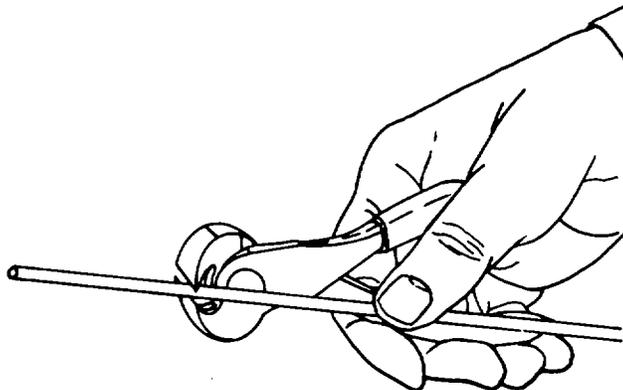
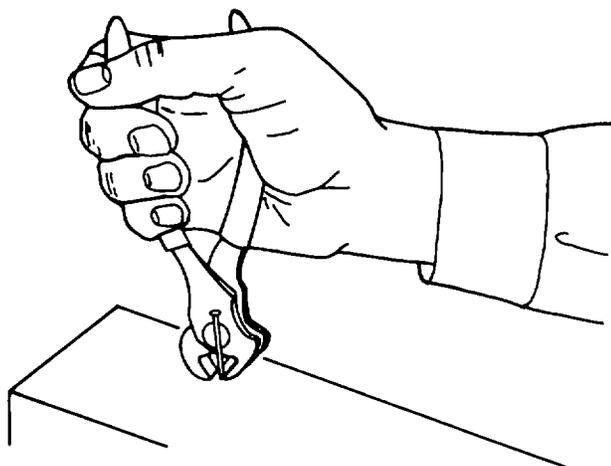

Figure 4-112. Cutting Wire
Figure 4-113. Flush Cutting
- a. Use. Nippers and pincers, as previously stated, are used to cut wire, bolts, rivets, nails, and other similar items. Figure 4-112 illustrates the technique for cutting wire, and figure 4-113 shows the procedure for cutting a rivet or similar object flush with the surface.